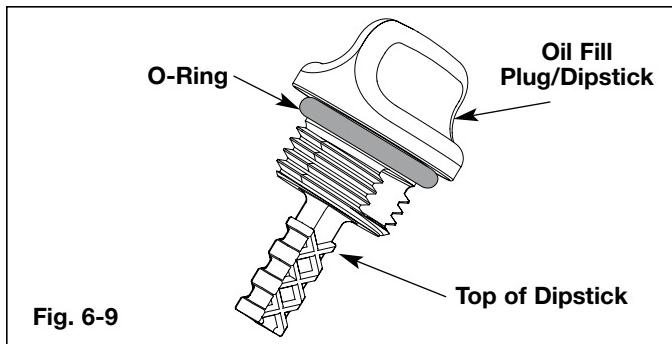

Fig. 6-9
5. Remove the oil fill plug/dipstick and check oil level. Oil should be up to the top of the dipstick (Fig. 6-9).